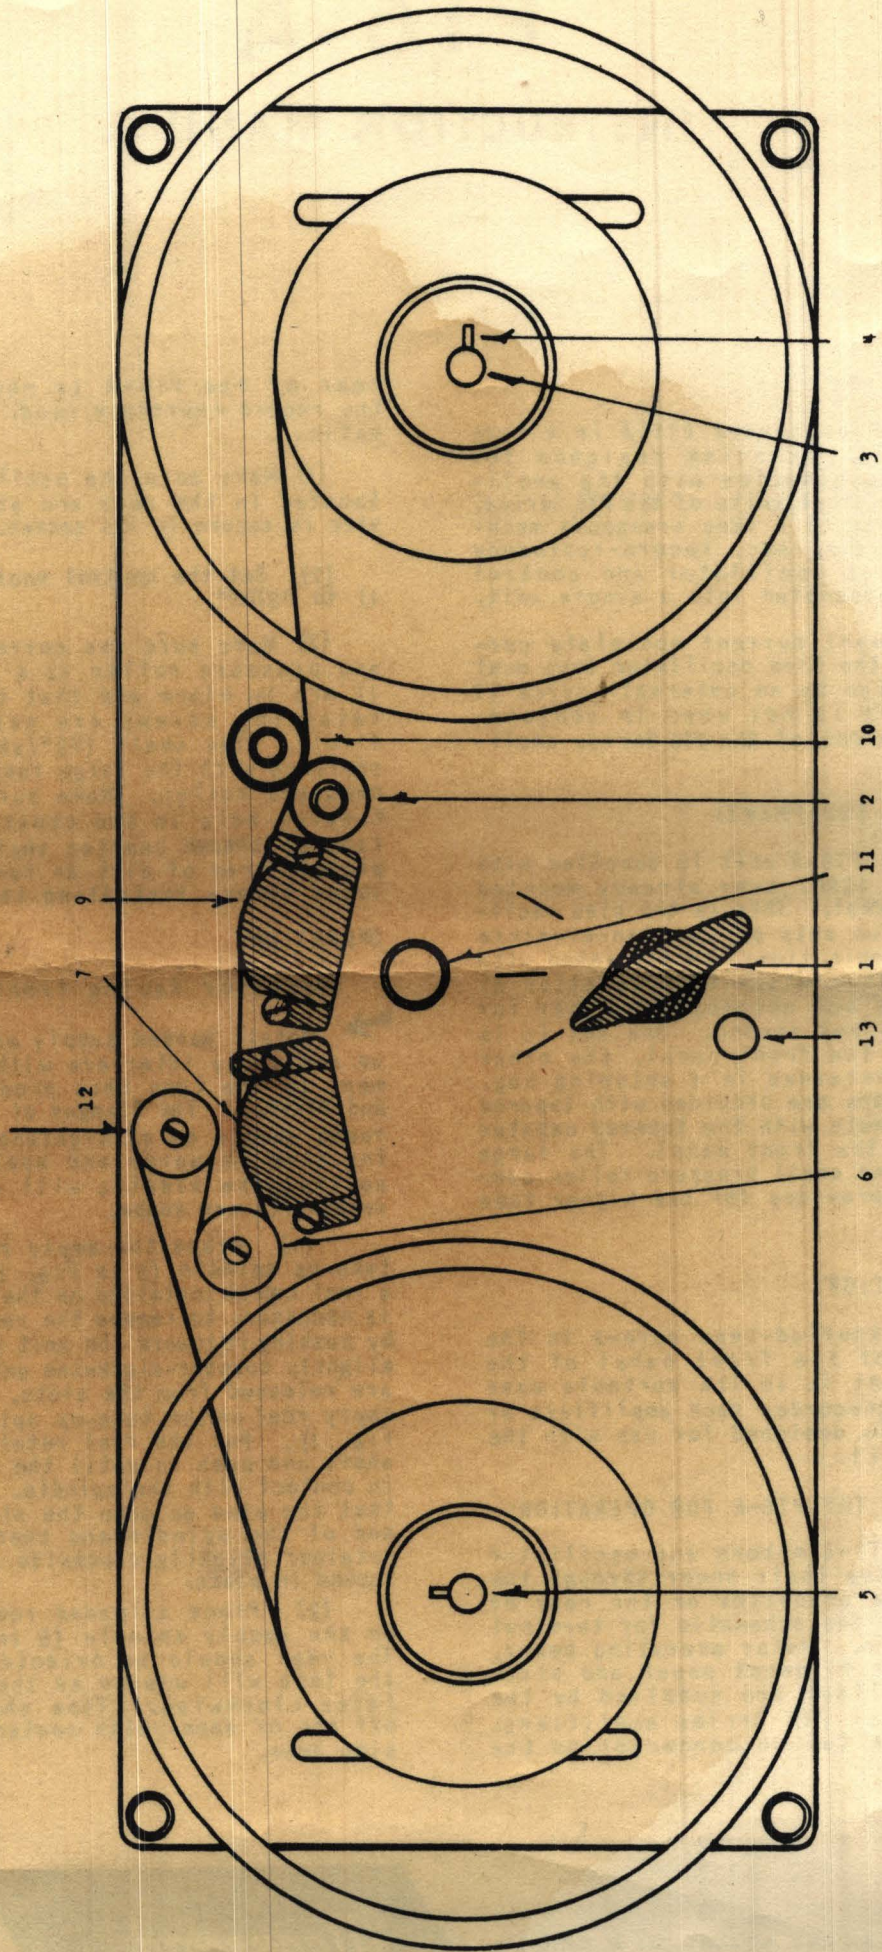

FIGURE 1
The bias indicator lamp (II in Fig. 1) will glow when plate supply voltage is being supplied to the oscillator tube. This indicates that any previous recording on the tape is being erased and a new recording may be made.
(1) Make sure the oscillator tube located in the rear and at the right side is secure in its socket.
(2) Set the control knob (1 in Fig. 1) to "STOP".
(3) Make sure the correct capstan and pressure roller (2 & 10 in Fig. 1) are in place and that the knurled retaining screws are screwed down firmly. The small (7½"/sec) capstan operates with the large rubber covered pressure roller. Make sure that the tapered hole in the capstan and the tapered shaped capstan shaft are completely free of dirt or foreign particles before installing the capstan.
(1) Place the empty reel on the take-up spindle (3 in Fig. 1). Before a reel can be installed on the spindle it is necessary to remove the reel retainer by pushing it toward the unit and turning slightly counter-clockwise until the pins are released from the slots. Place the empty reel on the take-up spindle (3 in Fig. 1). Put the reel retainer on the shaft and push in until the 3 pins are in contact with the spindle. Make sure that the pins go down the slots in the end of the spindle and then turn the retainer slightly clockwise until it is locked in place.
(2) Place a loaded reel of tape on the supply spindle (5 in Fig. 1). The reel should be oriented so that the tape will unwind as the reel rotates clockwise. Tape should come off top of spool with coated, or dull side down.
(3) Turn the supply reel clockwise by hand so that approximately 18 inches of tape or leader will unwind.
(4) Insert the end of the tape or leader in the slot on the inside of the take-up reel.
(5) Rotate the take-up reel clockwise until there are at least two full turns of tape on the reel.
(6) Slip the tape into its normal travel path; under the idler (6 in Fig. 1); over the erase head (7 in Fig. 1); over record-reproduce head (9 in Fig. 1); between capstan (2 in Fig. 1) and pressure roller (10 in Fig. 1).
(7) Rotate take-up reel to remove slack.
(8) Connect the unit to the Magrecorder PT6 amplifier. Note: If the PT6-A is to be used with some other amplifier, 117 volt 60 cycle AC must be supplied to the motors; and filament power at 6.3 volts .3 amperes and plate supply of 300 volts at 40 ma must be supplied to the oscillator tube. See schematic.
(9) Turn the control knob to "FORWARD". This puts the unit into forward operation at a speed determined by the capstan being used. If the tape does not move smoothly between the capstan and pressure roller, lift the pressure roller slightly to permit the tape to align itself properly.
(10) To rewind the tape, turn the control knob to "STOP", then place tape over lift bar so that the tape is lifted clear of the heads. Turn the control knob to "REWIND". The rewind mechanism, driven by a shaded pole motor, will completely rewind 1200 feet of tape (full 7½" reel) in approximately 40 seconds. The loaded reel will rotate at an increasingly higher speed as the tape is transferred back to the supply reel during rewind. The control knob may be turned to "STOP" at any time during rewind without danger of tape throw. Be sure that the tape is lowered to its normal position on the heads before attempting to record or reproduce.
(11) The bias indicator light (11 in Fig. 1) will glow when the oscillator tube plate supply voltage is applied through the Jones male connector. If the PT6-A is being used with any of the Magnecord PT6 Series amplifiers, the light will go on when the amplifier Selector Switch is turned to "RECORD". An inter-lock in the PT6-A will turn off the oscillator and the lamp whenever the PT6-A control is turned to "STOP" or "REWIND". See schematic.
The bias indicator lamp (11 in Fig. 1) will glow when plate supply voltage is being supplied to the oscillator tube. This indicates that any previous recording on the tape is being erased and a new recording may be made.